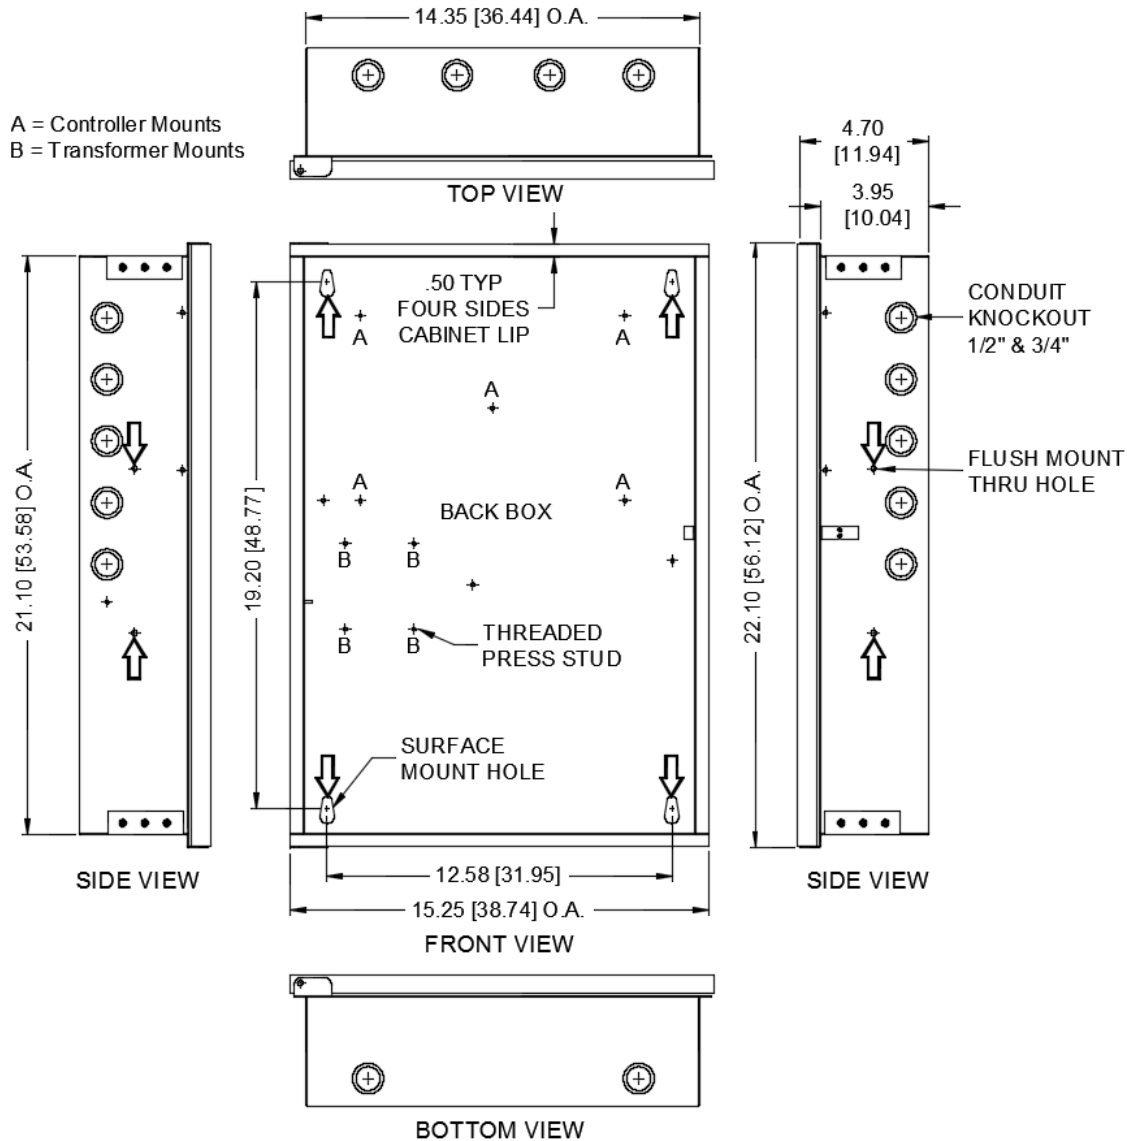

Figure 26 Enclosure Dimensions
Step 1 – Locate the five threaded press-studs provided in the enclosure back-box for mounting of the SHP-Pro controller. See Figure 26.
Step 1 – Locate the four threaded press-studs provided in the enclosure back-box for mounting of the AC Transformer. See Figure 26.